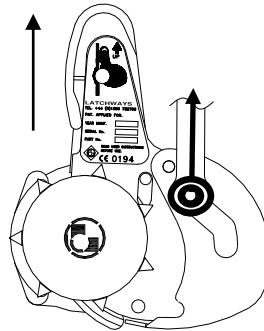

Fig 6.2. Cam in unlocked position.
- 6.2. Hold the device in the right hand by the release catch cover below the level of the attachment point so that the linkage is in the vertical plane. This will force the cam into the unlocked position. Fig 6.2.